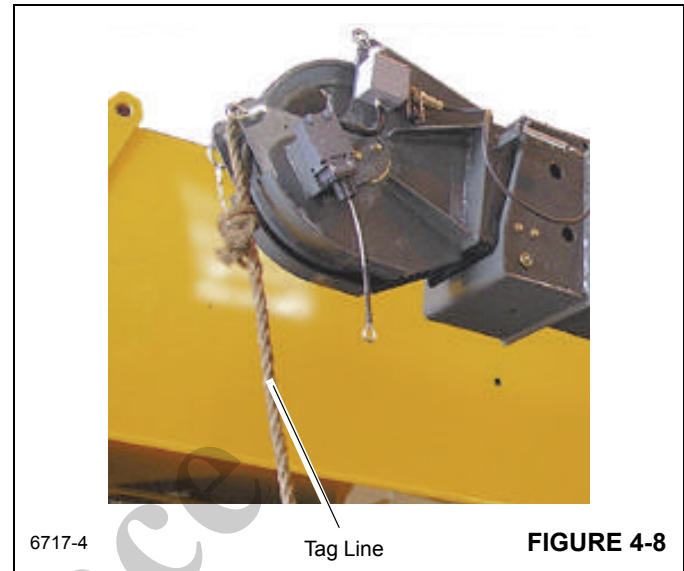

FIGURE 4-8
6. Attach a length of rope to the boom extension tip (Figure 4-8) to aid in swinging the boom extension into place ahead of the boom nose.